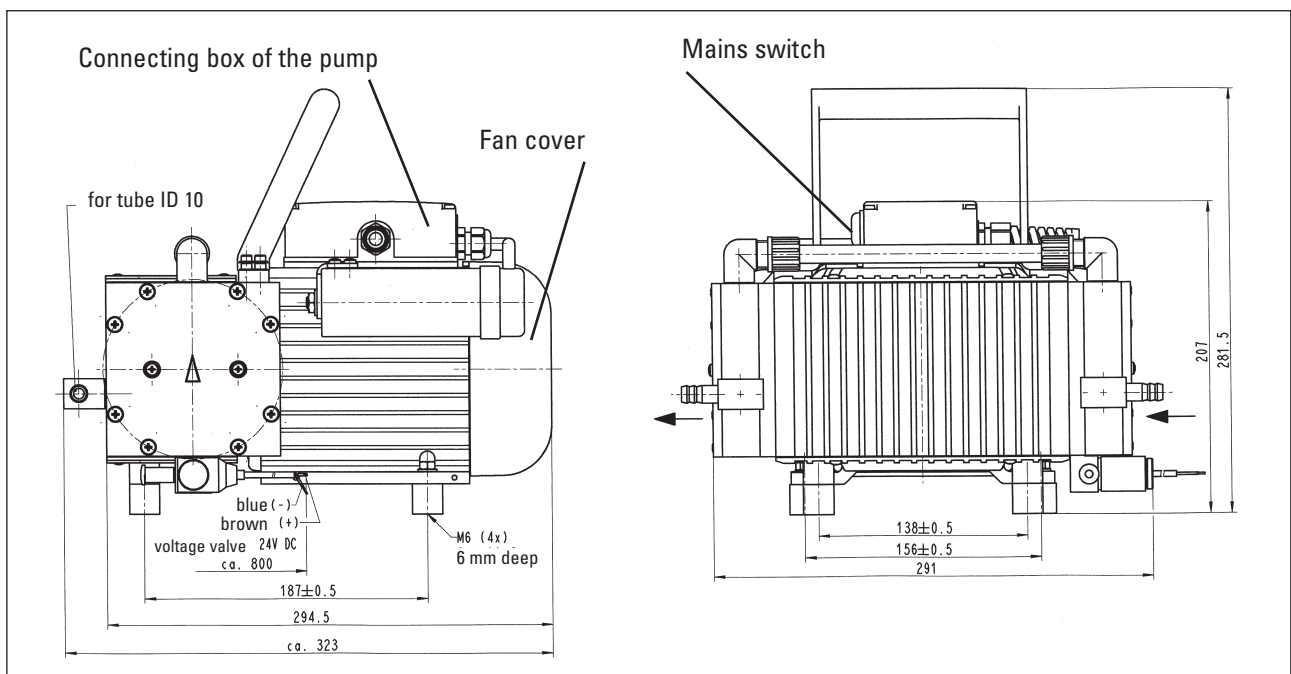

Fig. 1: Pump PM 16527-N 860.3-2.00
- The solenoid valve must be connected to the drying system control electronics (not included in scope of delivery); see fig. 1.
- 2 Switch the pump on at the pump mains switch (see fig. 1).
- 4 Undo the screws that hold the fan cover (see fig. 1) and remove the fan cover from the motor.